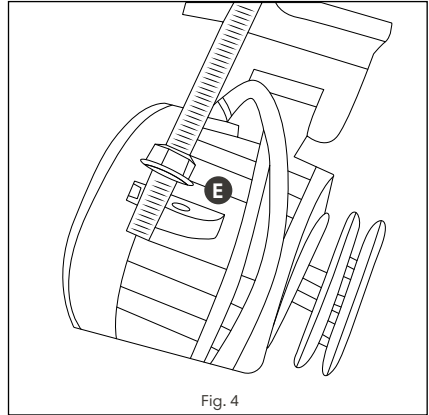

Fig. 4
- Before inserting the threaded end into the adjustment rod support (E), screw one of the adjustment locking nuts onto the rod (Fig. 4).